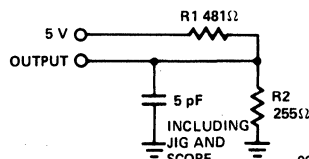

Figure 1b
- t_{HZCE} and t_{HZWE} are specified with C_L = 5 pF as in Figure 1b. Transition is measured ± 500 mV from steady state voltage.